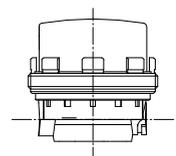

Fig. 2
- 1.6. Remove the Minolas measurement capsule from the packaging. The threaded ring and lifting ring are already installed at the factory, the O-ring is enclosed. (Fig. 2).